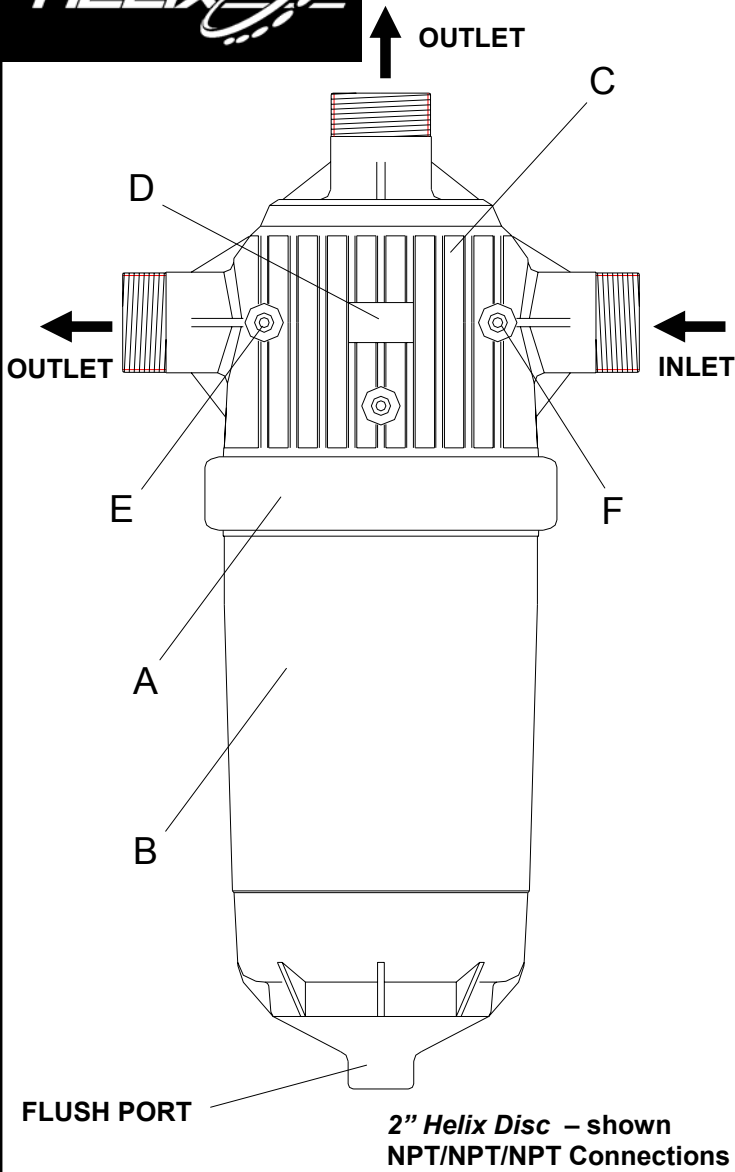

Figure 2
4. Install a valve on the flush port located at the bottom of the removable filter lid (fig. 2).
5. Install threaded pressure gauges into the inlet and outlet gauge ports located on the side of the filter (E & F, fig. 2).